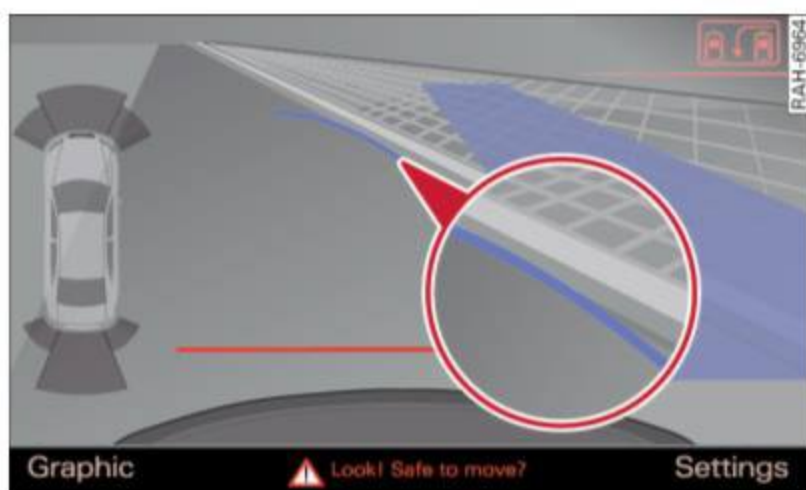

Fig. 122 MMI Display: Blue curve on the curb
- ▶ Back into the parking spot. Stop the vehicle as soon as the blue curve touches the curb ⇒ *fig. 122*.
- ▶ Continue to back up into the parking spot until the vehicle is parked parallel to the curb. ③ marks the rear bumper. You should stop driving in reverse as soon as and no later than when the red orientation line ④ abuts an object ⇒ ⚠! Keep an eye on the front of your vehicle while doing this ⇒ ⚠!
When there is an obstacle (such as a wall) next to the parking spot, choose a spot with more space on the sides. Position the long side of the blue area so that there is sufficient space from the curb. The area must not be on the curb. You will also need to start turning the steering wheel much earlier. There should be a sufficient amount of space between the curb and the blue curve, and the blue curve ⇒ *fig. 122* must **not** touch the curb.